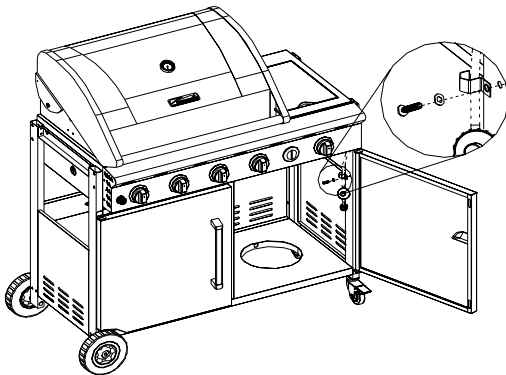

Figure 14
1. Attach the regulator hose clamp and the regulator hose to the right front leg with (1) 1/4 x 3/8" Phillips head screw and (1) 1/4" lock washer. (Fig.14)